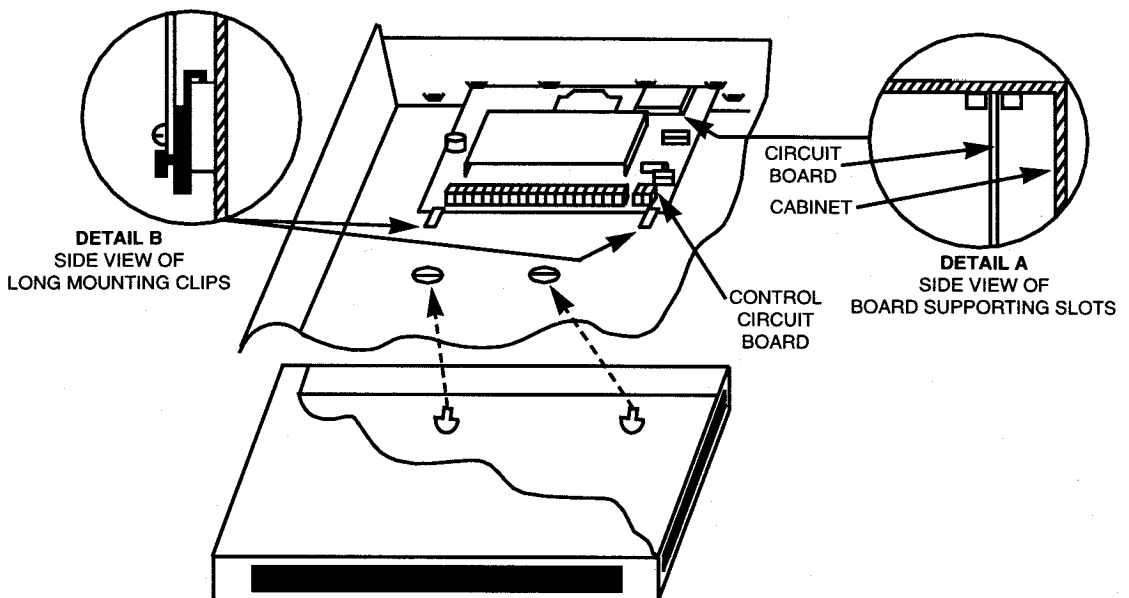

Figure 2.
1. Hang two *long Red* mounting clips (provided) on the raised cabinet tabs (see Detail B in Fig. 2).
2. Insert the top of the circuit board into the slots at the top of the cabinet. Make sure that the board rests on the correct row (see Detail A in Fig. 2).
3. Swing the base of the board into the mounting clips and secure the board to the cabinet with the accompanying screws (see Detail B in Fig. 2).
Any one of these units can be mounted in the cabinet with the main control board, if used. See Figure 2.
2. Hang the unit on the screw heads via two of the slotted holes at the rear of its housing, as shown in Figure 2.